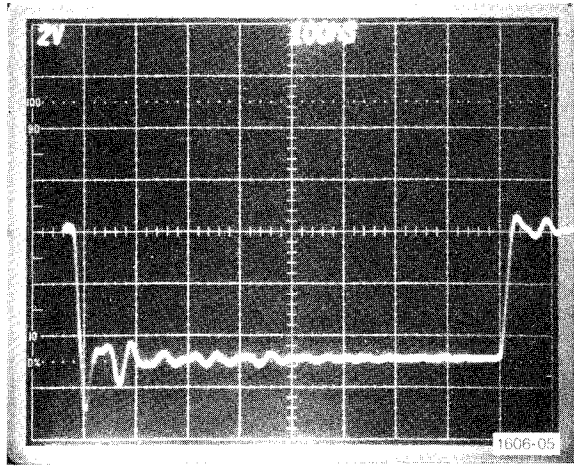

Fig. 2-3. Read/Write Time.
7. Adjust R81 for 8 divisions (800 nanoseconds). See Fig. 2-3.